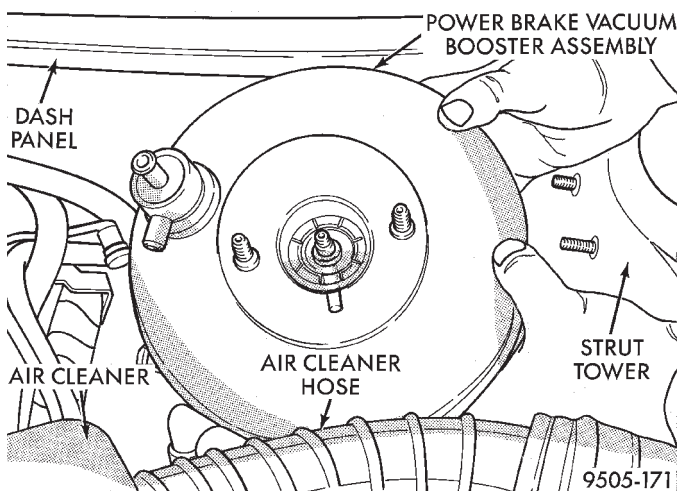

Fig. 64 Power Brake Vacuum Booster
(12) Slide power brake vacuum booster forward until mounting studs clear dash panel and then tilt up and rotate toward center of vehicle to remove (Fig. 64).